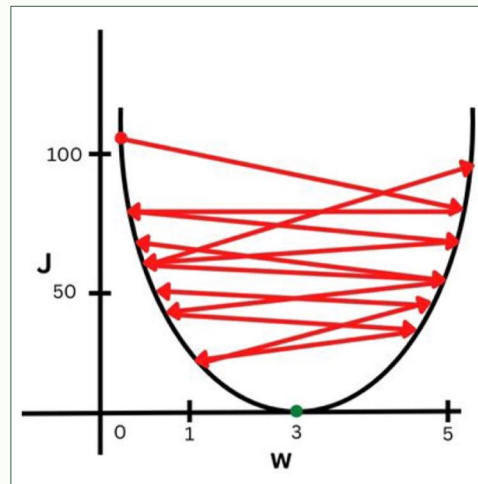

Fig. 4
However, if the learning rate is very large, then the cost function (J) will never converge (reach the minimum or zero). It will move back and forth as in Fig. 4. Therefore, the learning rate value is very important.